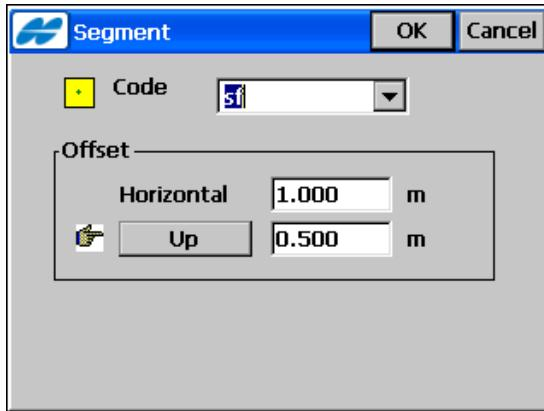

Figure 7-25. Segment Screen
- **Edit** – opens the *Segment* screen (Figure 7-25 on page 7-26) with the parameters of the highlighted segment.
The *Segment* screen (Figure 7-25 on page 7-26) contains the parameters of the highlighted segment.